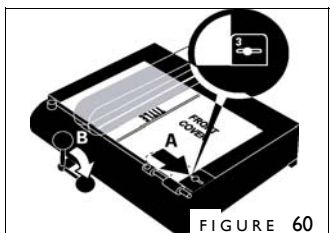

FIGURE 60
1. With your cover and the Centering Guide in their last positions, slide your cover over so its right edge stops against step 3 (figure 60). Push the lever to the right to hold down your cover.